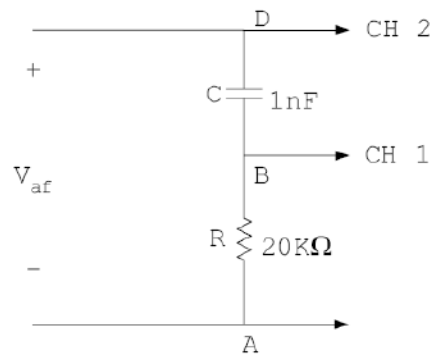

Figure 1: Phase shift circuit diagram
- Build the given circuit (Figure1) on the Breadboard. Connect the components in series. Connect the frequency generator in series to the positive and ground lines of the breadboard and connect it in series with the components.